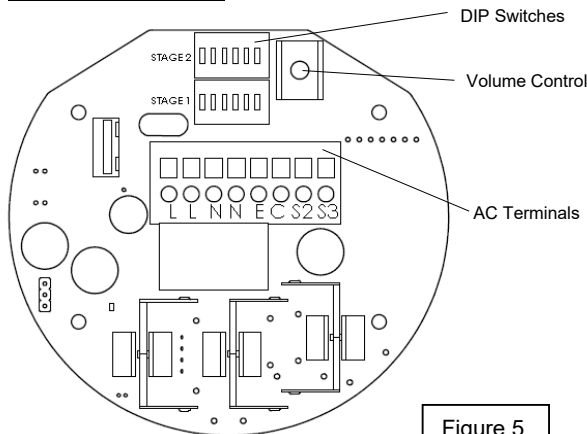

Figure 5
On the AC units an eight way terminal block is provided for the live (x2), neutral (x2) & earth mains supply wires and also common (C) linking the second (S2) and third (S3) stages, (see figures 5 and 6).